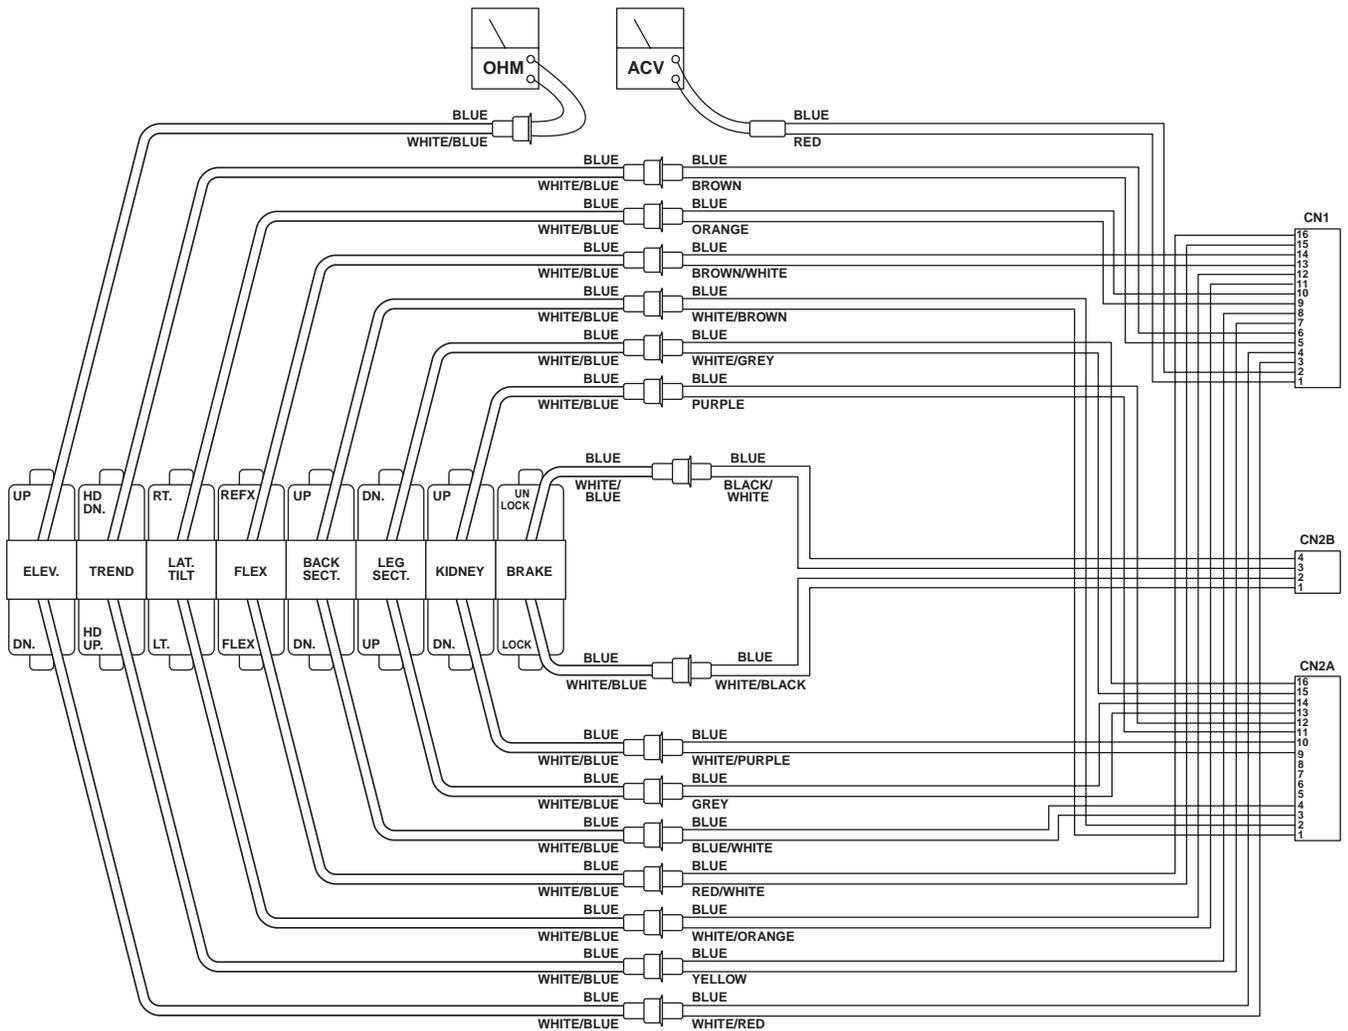

Figure 5-9. Solenoid Test
2. Disconnect the 2 pin connector from the solenoid in question. See figure 5-9.
1. Measure the resistance between the two pin connector in question as shown in figure 5-9. Connector must be disconnected. Polarity of meter leads is not important.